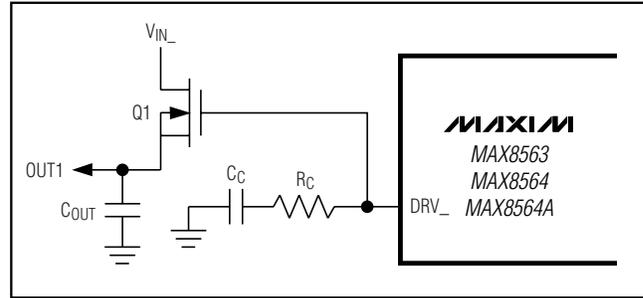

Figure 3. Soft-Start and Compensation Schematic
When an LDO is activated, the respective DRV\_ is pulled up from GND with a typical soft-start current of DRV soft-start. The soft-start current limits the slew of the output voltage and limits the initial spike of current that the drain of the external n-MOSFET receives. The size of the compensation capacitor (CC) limits the slew rate (see Figure 3). This output voltage slew rate is equal to (DRVsoft-start/CC)mV/ms, where CC is in μF. The maximum startup drain current is the ratio of COUT to CC multiplied by the soft-start current.